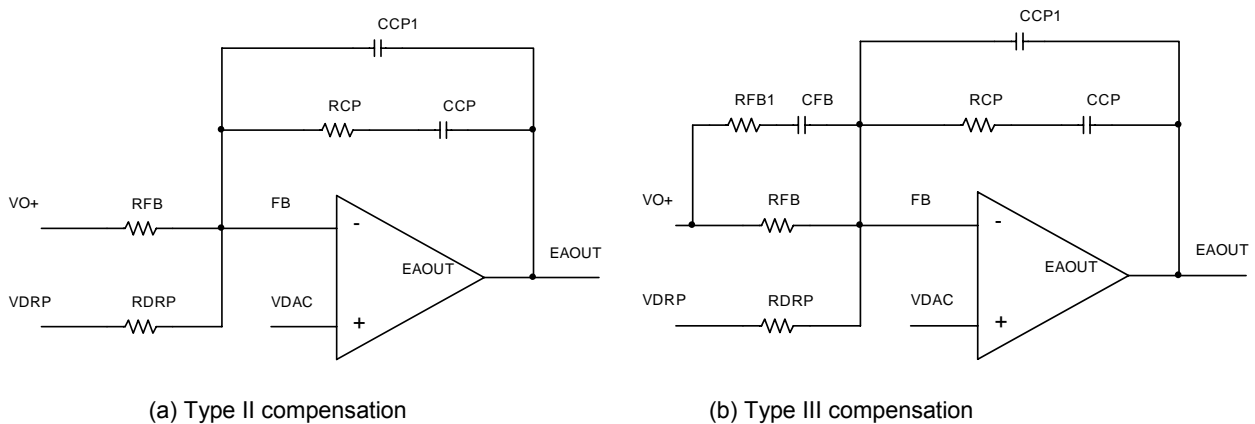

Figure 18. Voltage loop compensation network
Resistors RFB and RDRP are chosen according to Equations (15) and (16), and the selection of compensation types depends on the capacitors used. For the applications using Electrolytic, Polymer or AL-Polymer capacitors, type II compensation shown in Figure 18 (a) is usually enough. While for the applications with only ceramic capacitors, type III compensation shown in Figure 18 (b) is preferred.
All ceramic output capacitors are used in the design, type III compensation as shown in Figure 18(b) is used here. Choose the desired crossover frequency  $f_c = 80$  kHz and determine  $R_{CP}$  and  $C_{CP}$ :